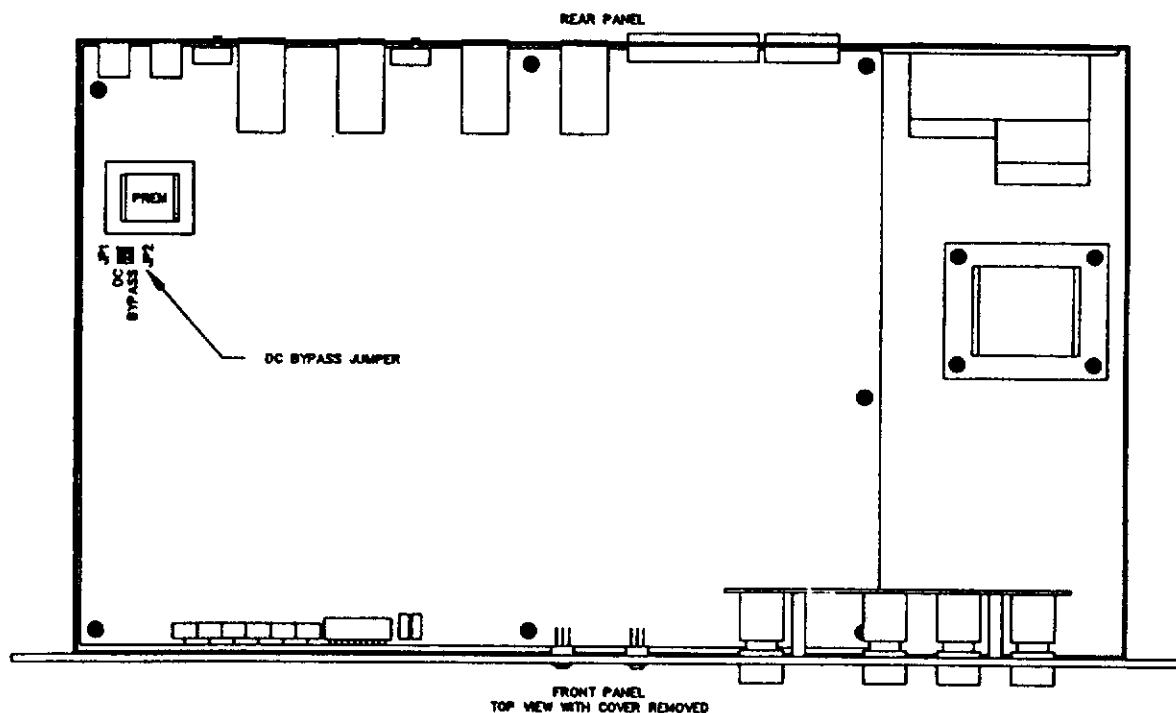

Figure 12
If it is necessary to change the jumper, refer to the Board drawing in Figure 12 to locate the jumper, then follow the instructions below. (This jumper is also shown on Sheet 1 of 10 of the Schematic Drawings found in the Schematics section of this manual.)
2. Locate the PREM transformer near the modular telephone jacks on the back panel of the Digital Hybrid III. See Figure 12.